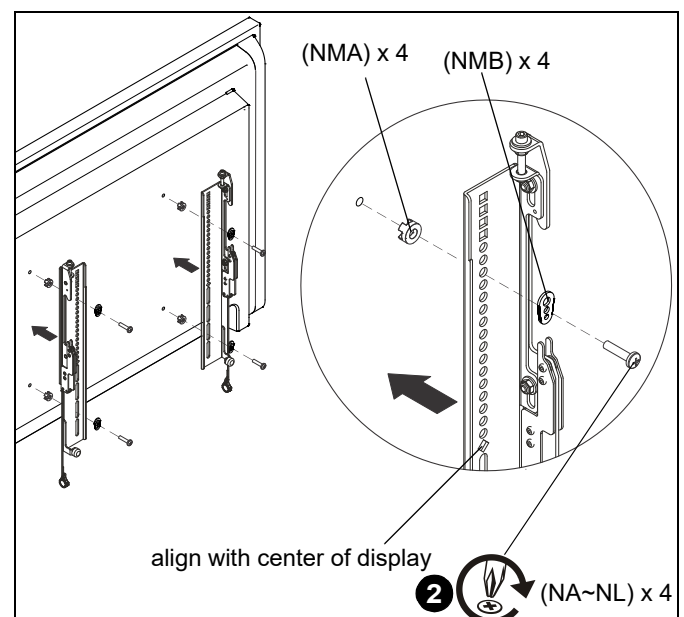

Figure 11
1. Align the center of the interface brackets (L and M) with center of screen. (See Figure 11)
2. Select correct screws, nesting spacers (if necessary) and universal washers (if required) from the hardware bag (NA~NL) and attach interface brackets (L and M) to back of screens. (See Figure 11)